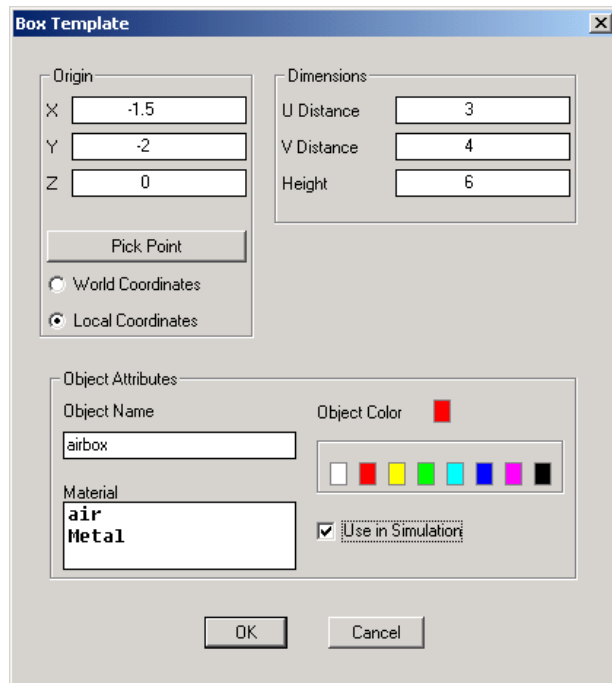

Figure 28 Box Template for the Air Box
- 3 Fill out the template as in Figure 28. Then click **OK**.